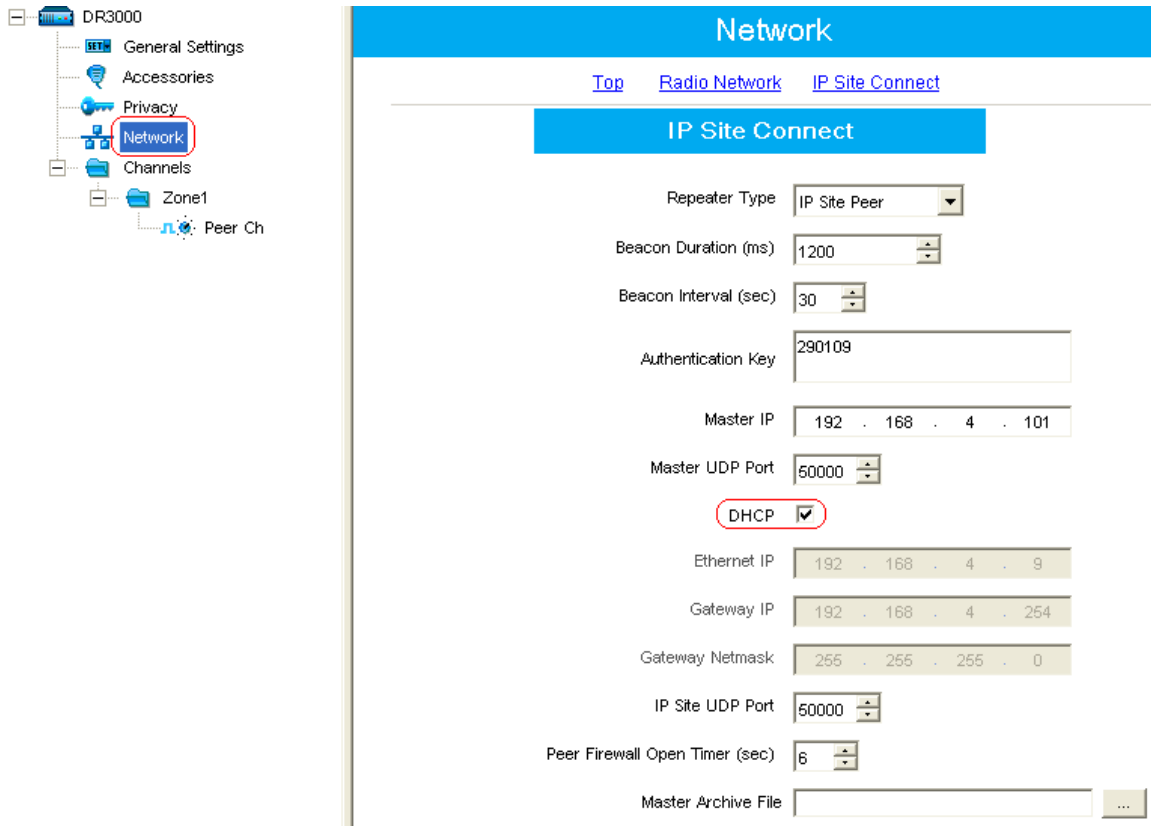

Figure 8.2
- 3) To enable the IP address of a Peer repeater to be dynamically assigned, navigate to the Network screen for the repeater and select the DHCP option as shown in Figure 8.2 below.